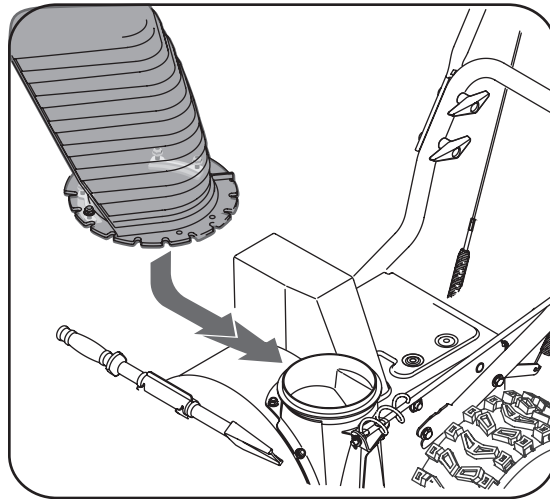

Figure 5
- Slide chute assembly over chute opening, making sure the flange keepers are beneath lip of chute adapter. The notches should engage with the spiral end of the chute crank. See Figure 5.